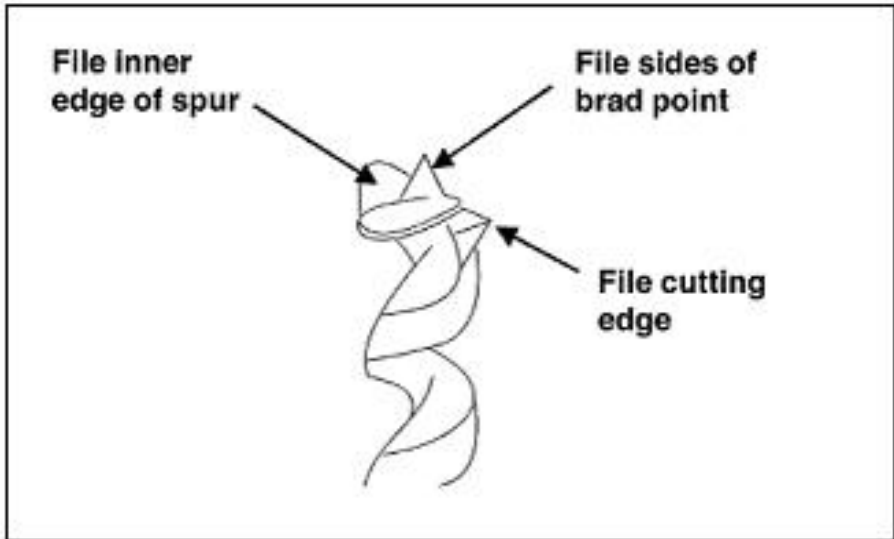

Fig 13
- Sharpen the bit by using a small, smooth file, following the original shape of the bit. File the inside edge of the spur, the sides of the brad point, and the cutting edge inwards toward the flute of the bit. See Fig 13. Do not file the outside edge of the spur as this will affect the diameter of the bit.